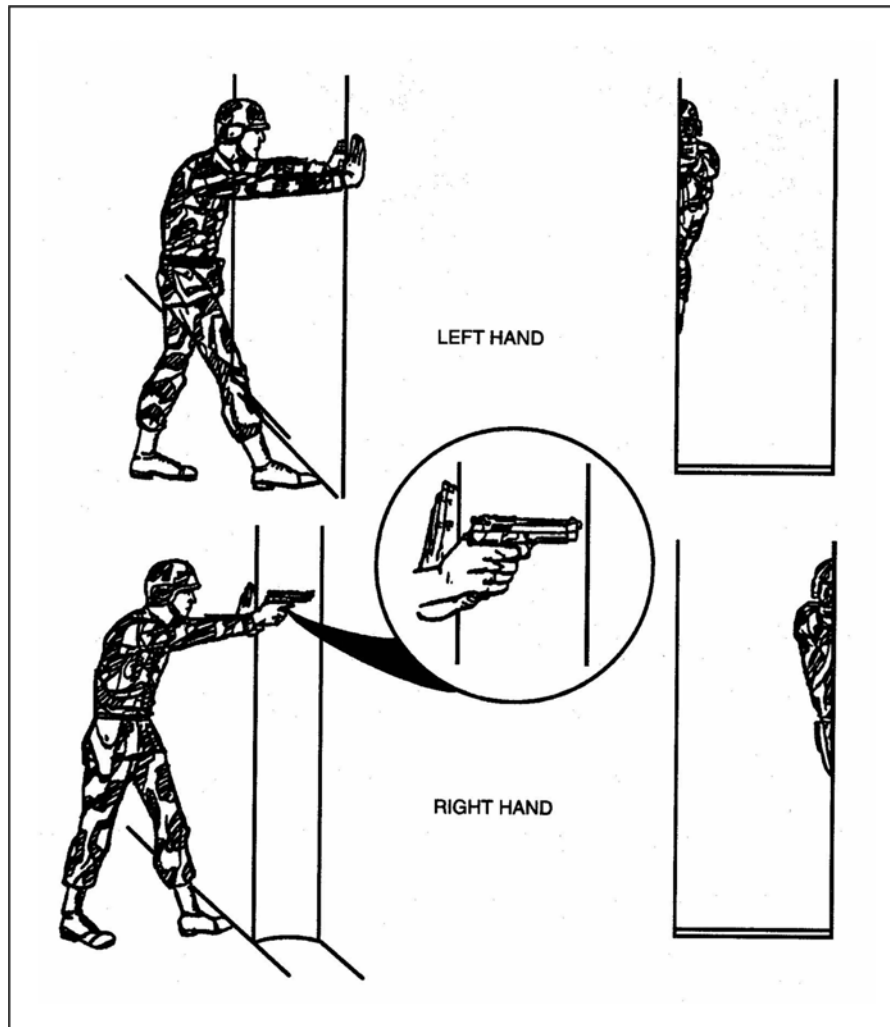

Figure 4. Standing With Support
- b. Standing with support (Figure 4).